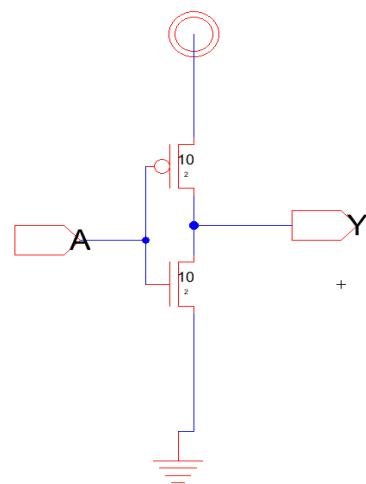

Figure 1.15: Named the input and output.
11. Create export for inputs and outputs: click on the (Input or output) then click on Export>>Create Export >> After that named the input or output >>then click OK. You can see the name shown in the circuit. repeat these steps for all inputs and outputs as shown in Figure 1.15.